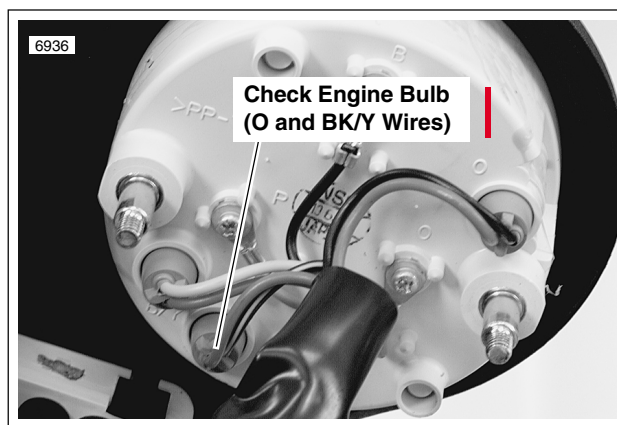

Figure 4-20. Check Engine Lamp Bulb
- b. Remove tachometer cover and pull check engine lamp from back of tachometer. See Figure 4-20. Remove check engine bulb from bulb socket.